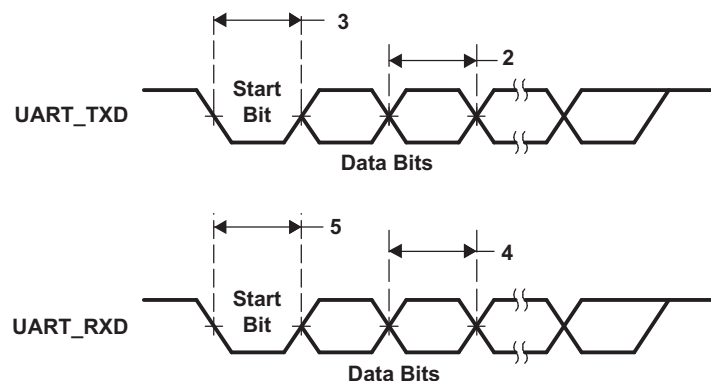

Figure 5-27. UART Transmit/Receive Timing
Table 5-29. Timing Requirements for UART Receive⁽¹⁾⁽²⁾ (see Figure 5-27)
- (1) U = UART baud time = 1/programmed baud rate.
- (2) These parametric values are measured at DV_{DDIO} = 3.3 V, 2.75 V, and 2.5 V
Table 5-30. Switching Characteristics Over Recommended Operating Conditions for UART Transmit^{(1) (2)} (see Figure 5-27)